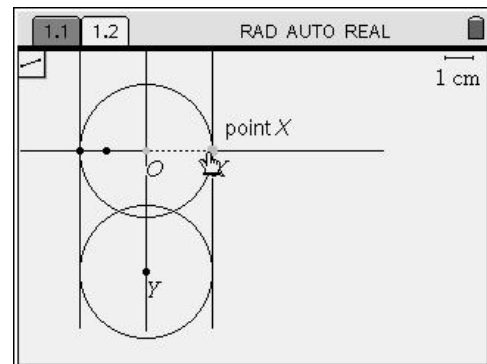

Figure 13
13. Construct segments for the sides of the cylinder, the middle vertical segment OY, and the radius segment OX. Press $\text{menu} \text{ } 6 \text{ } 5$ for Menu, 6: Points & Lines, 5:Segment. To construct segment OX, move the cursor to the center point until the point flashes and the text reads, “point O”. Press enter . Then move the cursor until point X flashes and the text reads, “point X”. (Figure 13) Press enter . Repeat for segment OY.